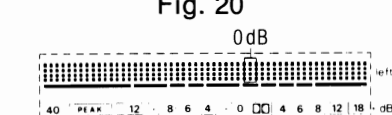

Fig. 21
9. At this time, check that 0dB indicator is dimmed (intermediate brightness between full brightness and light-out: See fig. 21).